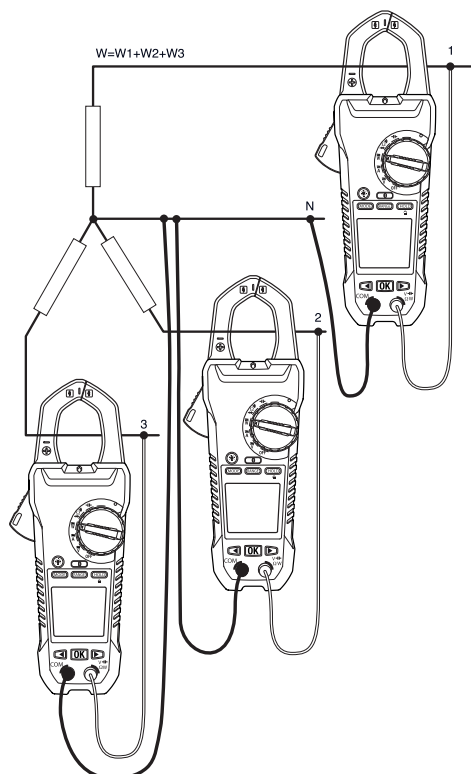

Figure 5.5 Three-phase four-wire measurements
The power of a three-phase four-wire configuration is measured in three steps, accordance with Figure 5.5. The total power is the sum of the three measurements:  $W = W_1 + W_2 + W_3$
3. Take three measurements of the active power, in accordance with Figure 5.5.